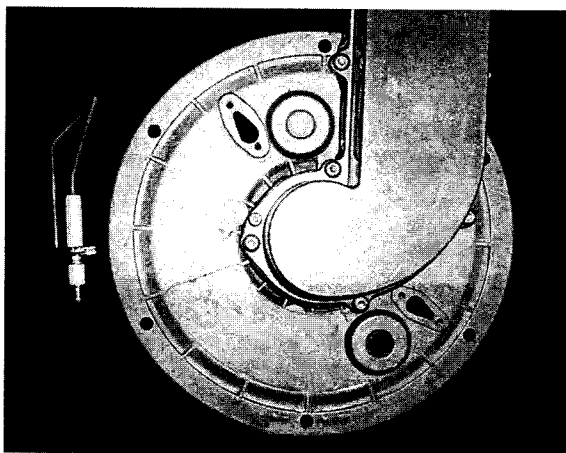
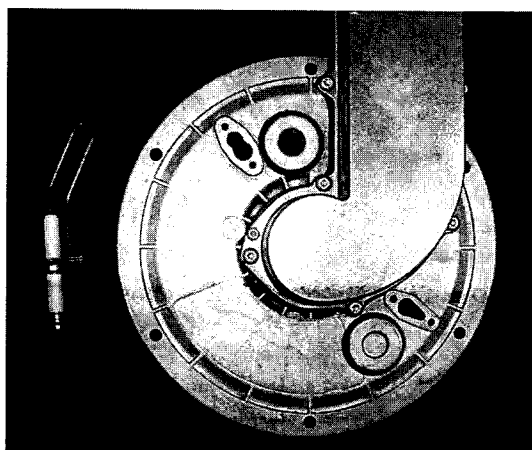

Figure 1 – Old Style Igniter and Plate
Figure 2 – New Style Igniter and Plate
2. Depending on the boiler model, the igniter and plate will be the "old" (Figure 1) or "new" style (Figure 2).